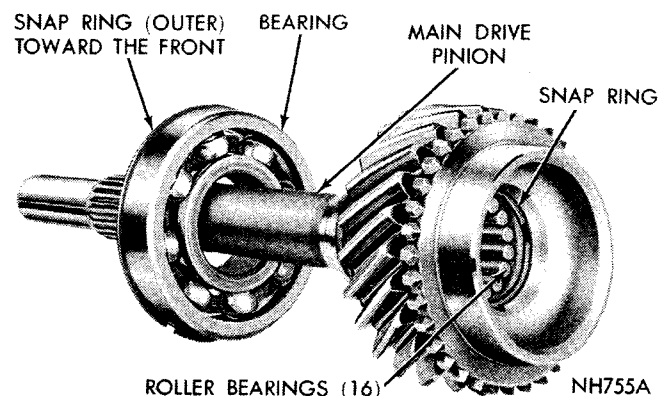
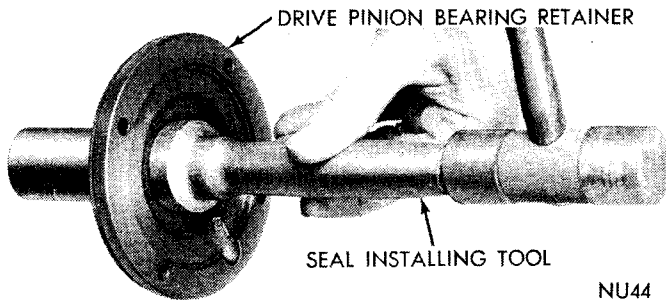

Fig. 28—Drive Pinion and Bearing Assembly
Fig. 29—Replacing Seal in Drive Pinion Bearing Retainer
(5) Press drive pinion bearing on pinion shaft. Be sure outer snap ring groove is toward front (Fig. 28). Seat bearing fully against shoulder on gear.
(6) Install a new snap ring on shaft to retain bearing. Be sure snap ring is seated. This snap ring is a select fit for minimum end play.
(7) Place pinion shaft in a vise (with soft jaws), then install 16 bearing rollers in cavity of shaft. Coat bearing rollers with grease, then install bearing retaining snap ring in its groove.
(8) Using Tool C-3789 (Fig. 29), install a new oil seal in retainer bore.